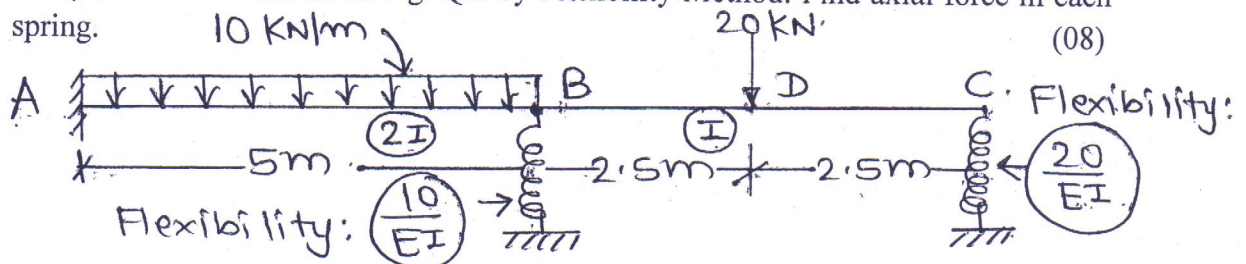

Fig. Q.2
Q.2 Analyse the beam shown in Fig. Q.2 by Flexibility Method. Find axial force in each spring. (08)